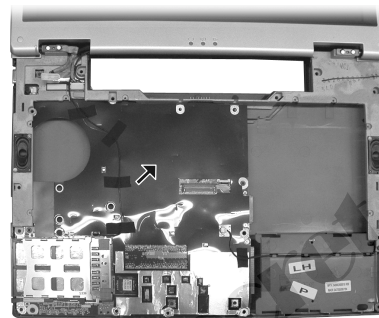

Figure 2-23 Free the LCD ASSY
8. Carefully pull the antenna wires out. Now you can lift up the LCD ASSY from base unit. (Figure 2-23)